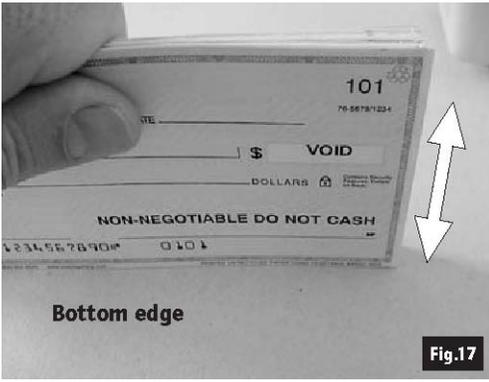

Fig.17
- 2 Jogging the documents is strongly recommended. In any case, align the bottom edges by repeatedly tapping the bottom edge of the documents on a hard, flat surface, see Fig.17.